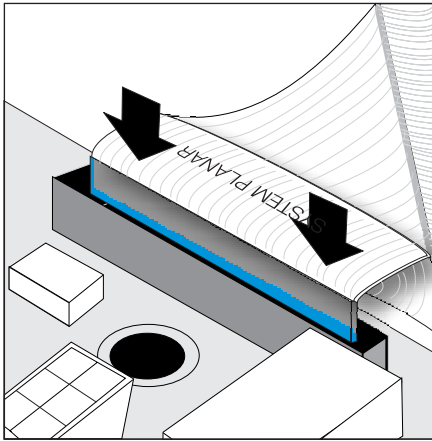

Figure 93. Install the service controller card cable into the system board
- c. To reinstall the cables, CAREFULLY install the one end of the ribbon cable (marked “System Planar”) to the system board being sure to install the cable straight in. See Figure 93 on page 178. Now route the flat cable and feed it through the opening where the service controller is to be installed and bring the other end of the cable (marked “Controller Card”) out of the front end of the SAN Volume Controller chassis. Next, CAREFULLY install this other end of the cable to the rear of the service controller being sure to install the cable straight in with no rocking or twisting during installation. Install the ATA cable to the rear of the service controller. Carefully install the service controller while ensuring the cables do not get damaged as they slide into the chassis. Be sure to verify that the blue line on